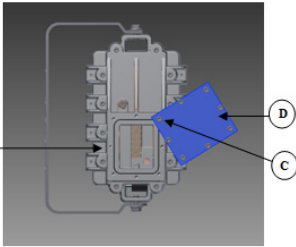

Figure 2
5. Run supply wire through applicable hub (B) on the side of the fixture. Make watertight joint using sealing fittings at threaded hub on the side of the fixture. The hub is threaded 3/4"-14NPT (North American version) or M20 (International version).
6. Loosen and remove all but one of the access door captive screws (C). Rotate access door (D) to allow for access into terminal chamber. See Figure 2 for more details.
8. Replace access door (D) and access door captive screws (C). Securely tighten screws (C). See Figure 2 for more details.